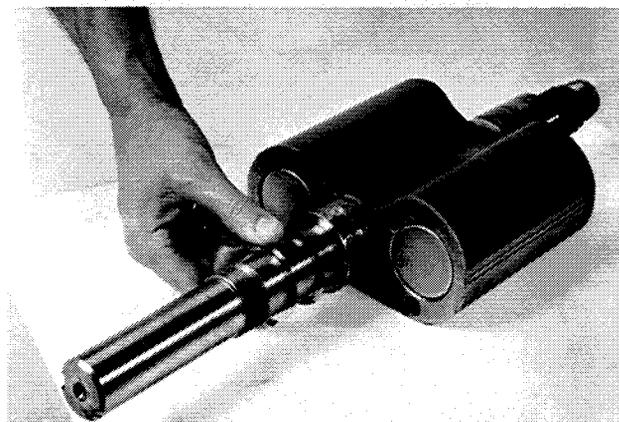

FIGURE 18
- e. Install the assembled shim stacks (15) on their respective drive end rotor shafts (see Fig. 18).